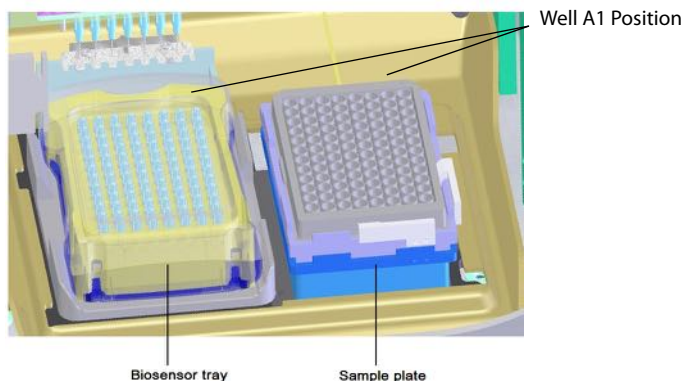

Figure 6-52: Biosensor Stage (left) and Sample Stage (right)
2. Place the biosensor tray on the biosensor stage (left side) so that well A1 is located at the upper right corner (see Figure 6-52).
3. Place the sample plate on the sample stage (right side) so that well A1 is located at the upper right corner (see Figure 6-52).